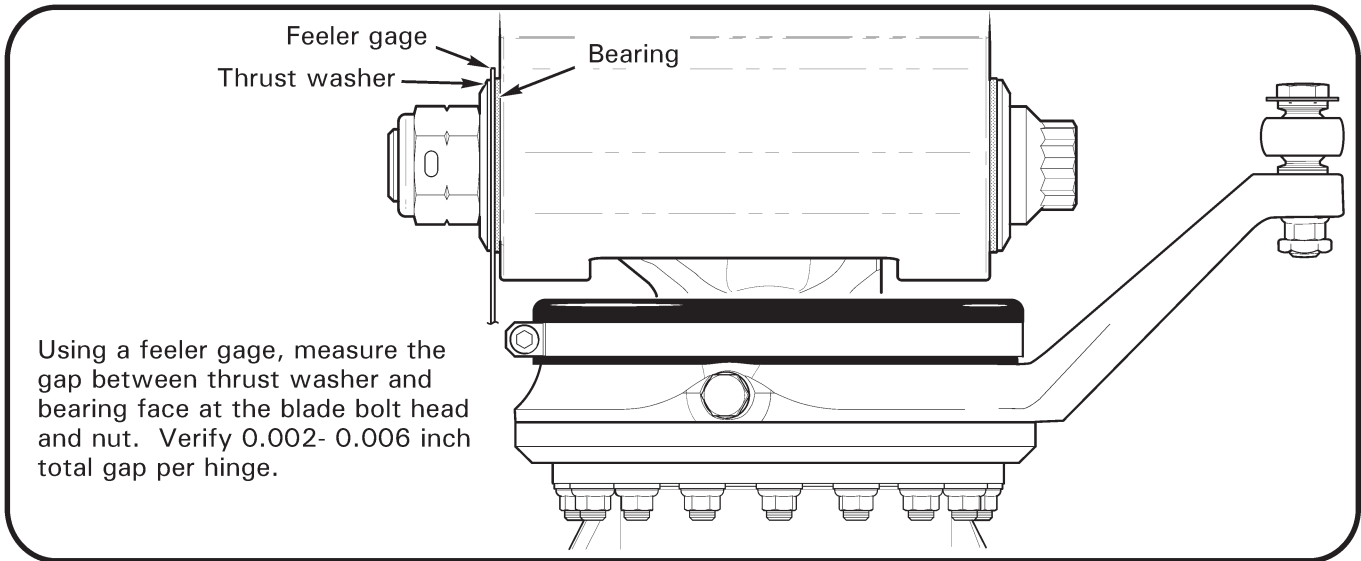

FIGURE 26-8 MEASURING CONING HINGE AXIAL GAP
5. Adjust shim stack combination as required to meet coning hinge axial gap requirement per Figure 26-8 and to maintain teeter friction requirement as follows: It must be possible to manually cone each blade without teetering the hub when blades are held up off the droop stops and lifted at tip.
- a. B370-1 Hub: Adjust coning hinge friction by changing trailing-edge shim stack thickness in small increments; reducing shim stack thickness increases friction, increasing shim stack thickness reduces friction. Coning hinge friction is zero when there is a measurable axial gap per Figure 26-8. Install shims, thrust washer, and nut.
- b. A154-1 Hub: Adjust coning hinge friction by changing trailing-edge journal length in small increments; using a shorter journal increases friction, using a longer journal reduces friction. Coning hinge friction is zero when there is a measurable axial gap per Figure 26-8. Install journal, thrust washer, and nut.